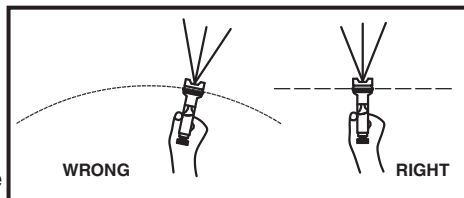

Fig. 11
- > Keep the spray nozzle (22) about 15 to 30 cm from the work surface. Move the spray gun keeping perpendicular with spraying area.
- > Completely pull the trigger (15) and then move it parallel for several times. Stopping gun movement in mid-stroke will cause a build-up of paint and result in runs. Do not fan the gun from side to side while painting. This will cause a build-up of paint in the centre of the stroke and an insufficient coating at each end (Fig. 11).